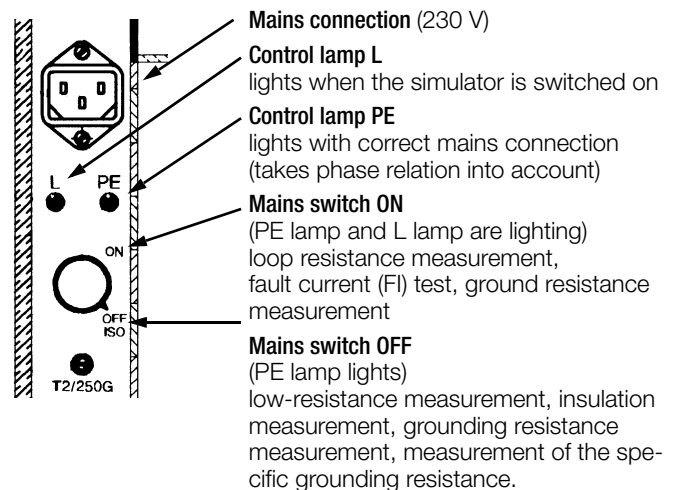
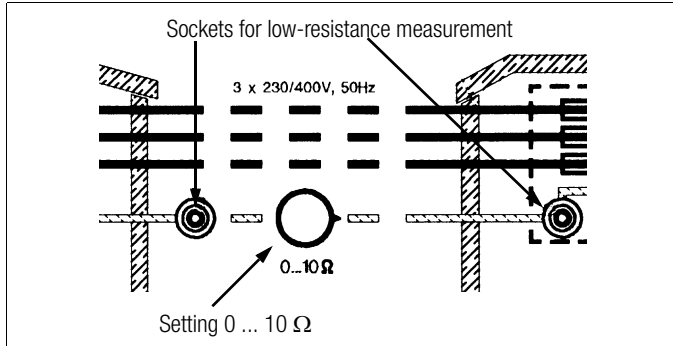
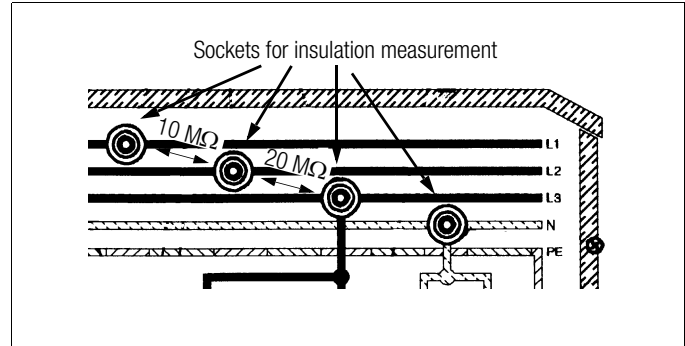

figure 3.1-1
figure 4.1-1
figure 5.1-1
Now the control lamp L lights additionally, siehe figure 3.1-1.
De-energized state of the simulator – only the control lamp PE lights [siehe figure 3.1-1]. This measurement can be demonstrated between the two sockets for low-resistance measurements [figure 4.1-1]. The resistance value can be varied with the controller within the range of 0 ... 10 Ω .
De-energized state of the simulator – only the control lamp PE lights, siehe figure 3.1-1. This measurement can be demonstrated between the four sockets [figure 5.1-1] with different values.
- ⇨ Switch on the simulator PROFi TEST S1 with the mains switch, siehe figure 3.1-1.
Use the ground contact/secondary emission multiplier adapter (accessory) for measurements with the secondary emission multiplier plug unit. In the TN system, the displayed value can be changed via the setting knob [figure 4.1-1].